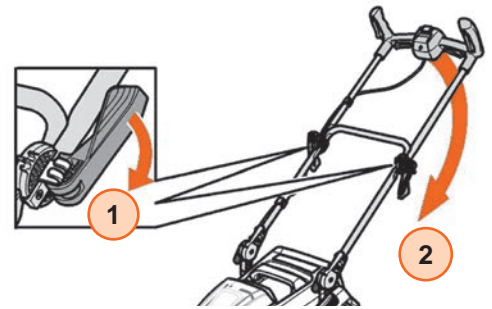

Figure 16
1. Loosen the quick-clamping levers on the upper handle ① and move the handle backwards ② (see Figure 16).